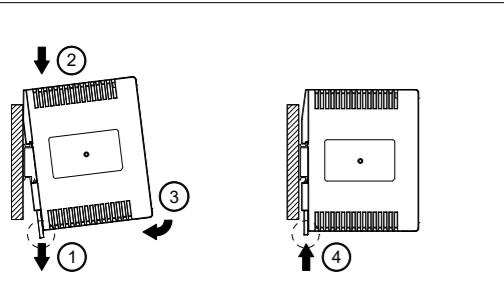

Figure 2
3. Mounting (Fig. 2)
Each device is delivered ready to install. Snap on the DIN rail as shown in Fig. 2.